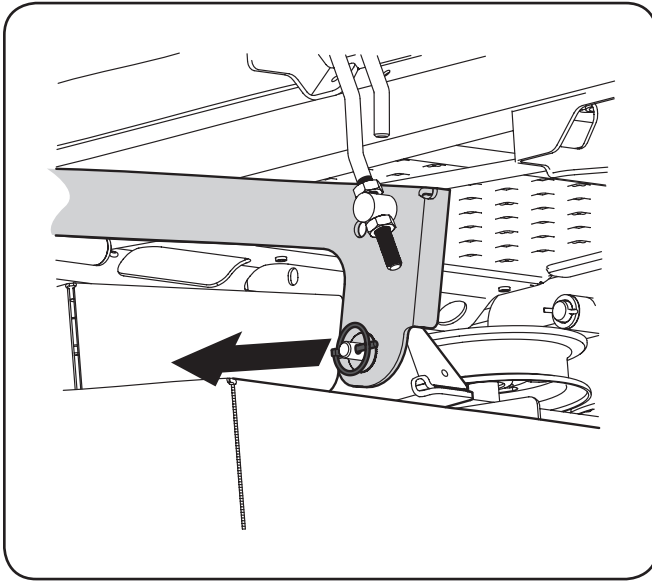

Figure 7-6
6. Locate the LH and RH deck release pins on each side of the deck. Pull the release pins outward and release the deck from the LH and RH deck lift arms. See Figure 7-6.
5. Pull the deck release pins outward and maneuver the deck as necessary to align the holes in the deck lift arms with the pins. Refer to Figure 7-6.